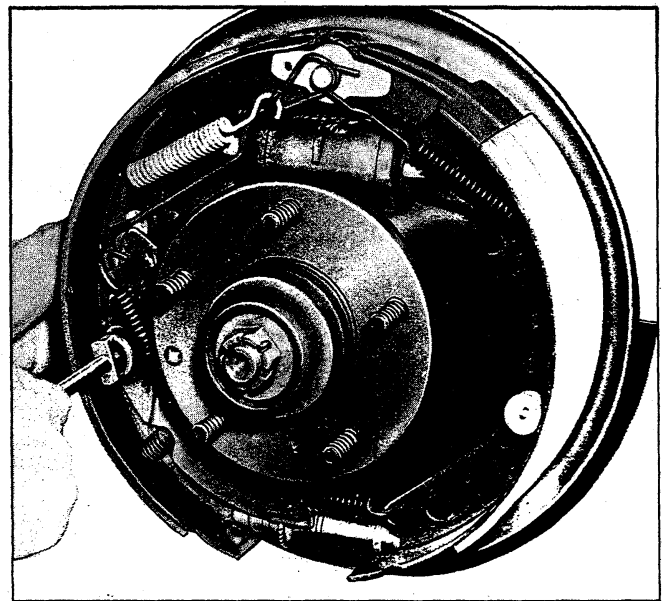

Fig. 28—Removing Hold-Down Springs and Pins
6. Remove hold-down pins and springs (fig. 28).